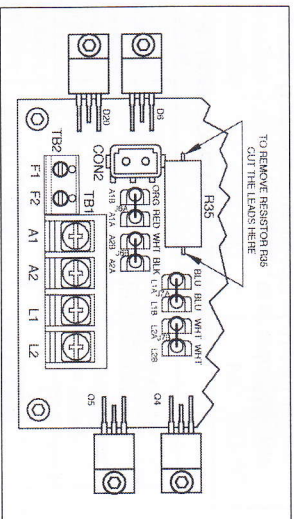

FIGURE 16 – REMOVING RESISTOR R35
Note: For low (L) motor current settings (0.8A, 0.5A, 0.4A, 0.3A, and 0.2A), it is necessary to remove resistor R35. Cut the leads at the locations shown in Figure 16.
Note: For low (L) motor current range settings (0.8A, 0.5A, 0.4A, 0.3A and 0.2A), it is necessary to remove resistor R35 by cutting it out of the circuit as shown in Figure 16 on page 10.
*Note: For low (L) motor current range settings (0.8A, 0.5A, 0.4A, 0.3A and 0.2A), it is necessary to remove resistor R35 as shown in Figure 16.